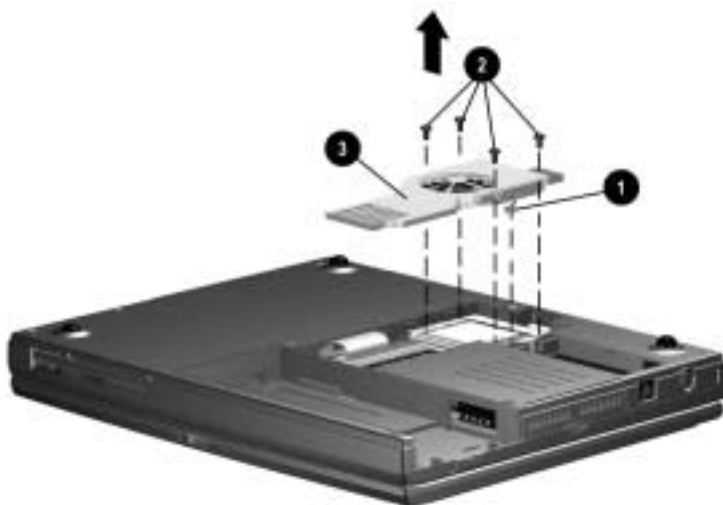

Figure 5-7. *Removing the Fan Assembly*
5. Disconnect the fan cable ❶ from the system board (Figure 5-7).
6. Remove the four screws ❷ securing the fan assembly to the system board.
7. Remove the fan assembly ❸.